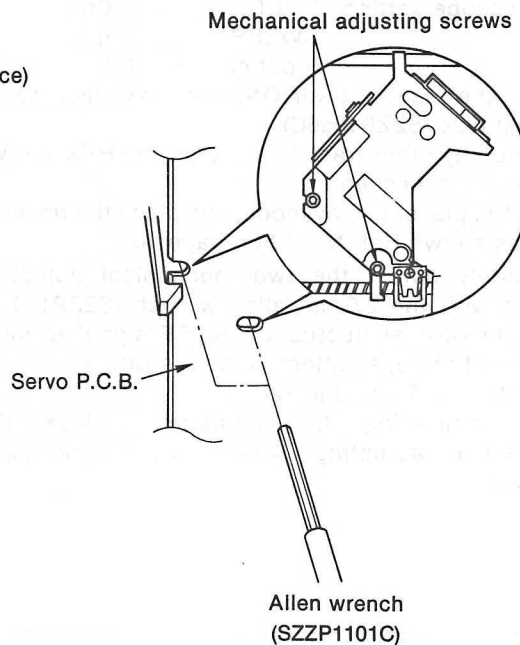

Fig. 2
4. Alternately adjust the two mechanical adjusting screws with the 2.0mm allen wrench (SZZP1101C) until the vertical fluctuation of RF signal is minimized and the eye pattern is most stretched. (Refer to Fig. 2 on page 12)